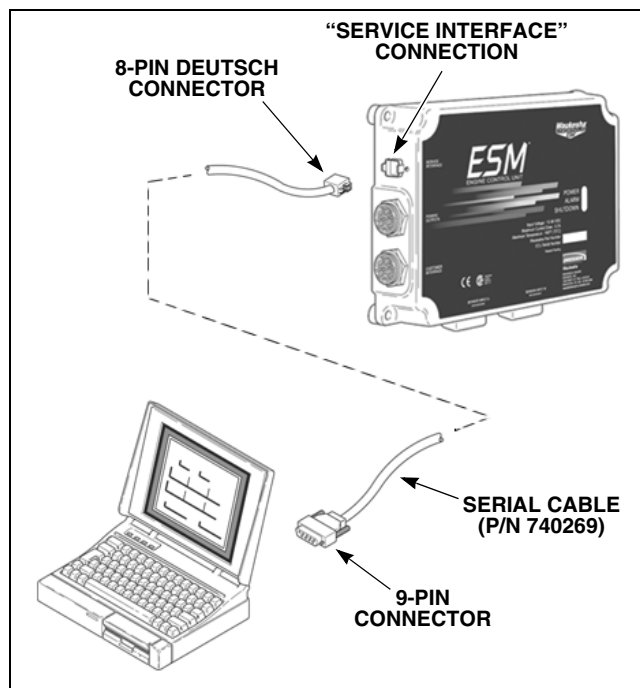

Figure 3.10-1 Serial Cable Connection between PC and ECU
2. Connect the 9-pin end of the RS-232 serial cable to the PC's communication port. Typically, this is port 1 (also referred to as COM 1, serial a, or serial 1) (see Figure 3.10-1).
3. Connect the 8-pin Deutsch® connector of the serial cable to the "Service Interface" connection on the side of the ECU (see Figure 3.10-1).